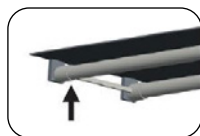

Fig. 5 LED U-Bend
4. Install the LED U-Bend (Fig. 5).